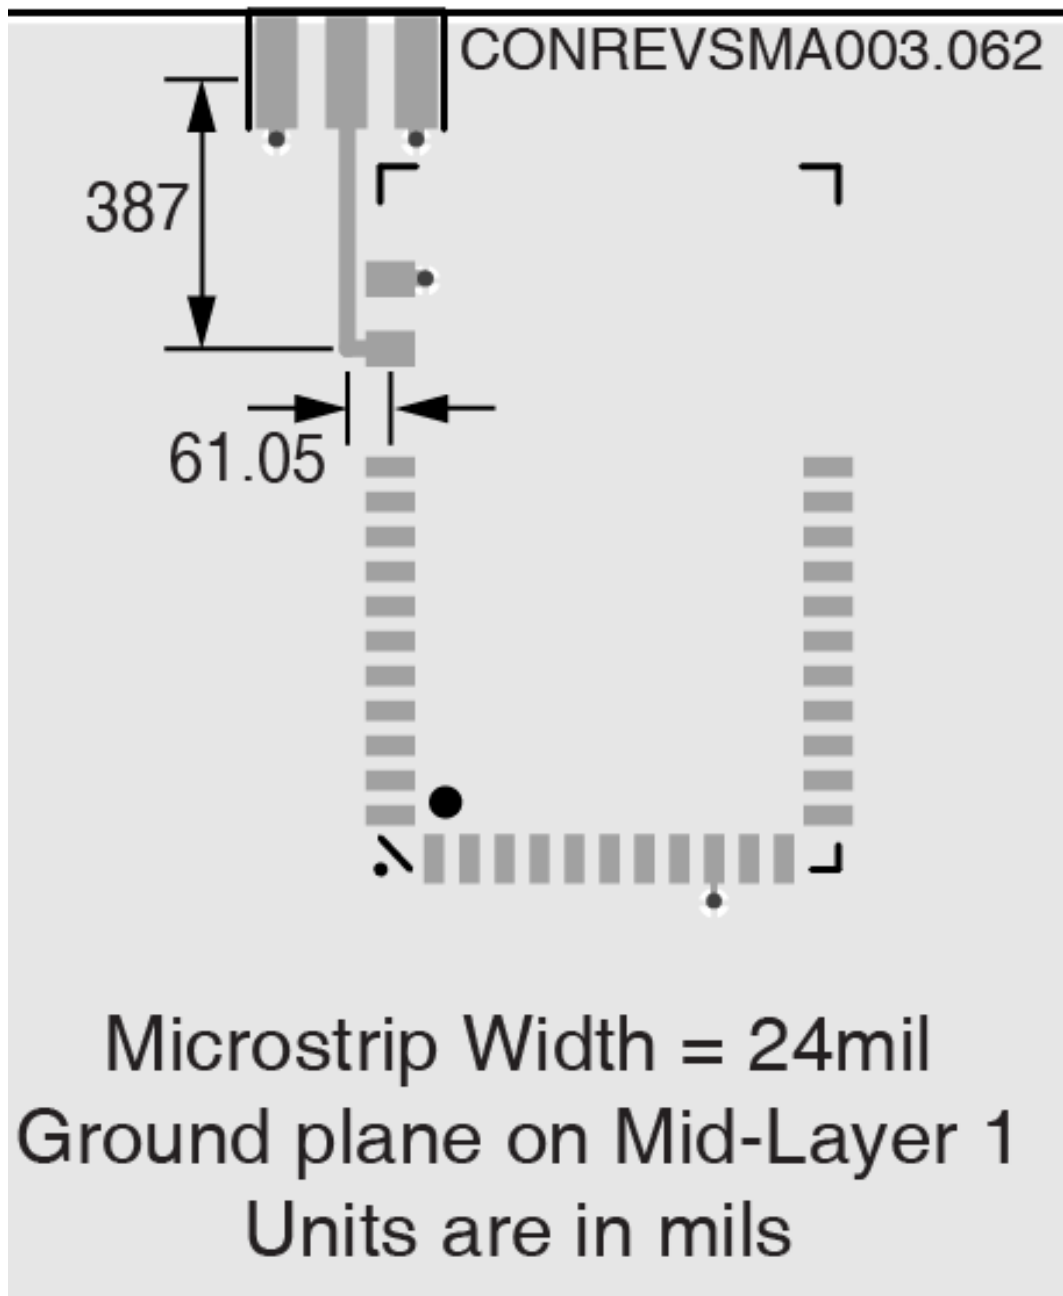

Figure 1 - Trace Dimensions for Edge Mount RP-SMA Connection
- Figure 1 shows the trace dimensions that must be followed precisely, including trace width, and routing